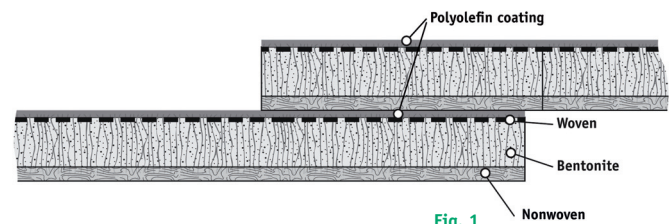
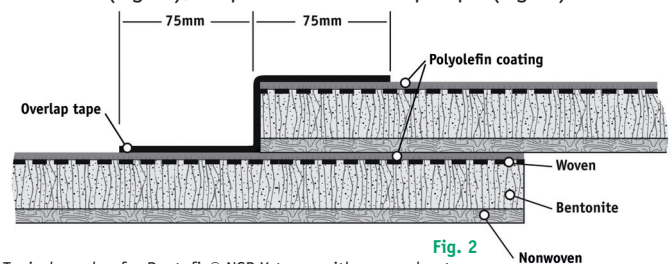

Fig. 1
Fig. 2
1.2 Additionally a polyethylene (PE) coating is extruded during the manufacturing process directly on to the slitfilm woven side, to ensure a durable bond without any additional adhesive (fig. 1), resp. with an overlap tape (fig. 2).
7.4 Application dependent it might be applicable to tape water-tight the PE coating of overlaps with a special tape. This must specifically be additionally ordered (fig. 2).